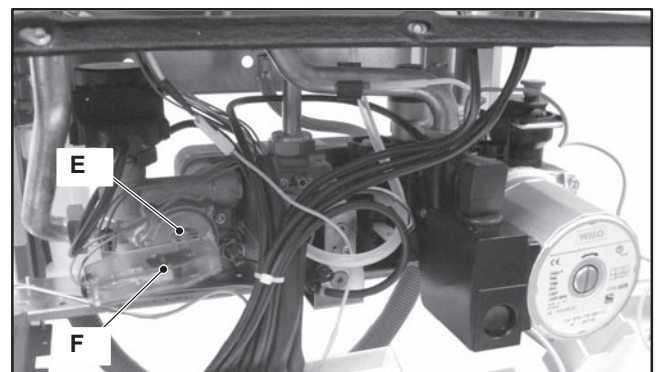

Figure 12.4
- 2 Remove the fork E (Figure 12.4).
- 2 Remove the fork E that holds the micro-switch housing F (Figure 12.4).